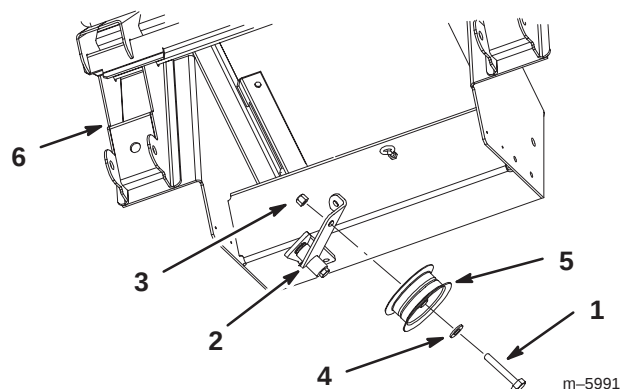

Figure 15
3. Install the bagger tensioner pulley onto the idler arm with a bolt (3/8 x 2 in.), washer (3/8 in.), and lock nut (3/8 in.) (Fig. 15).